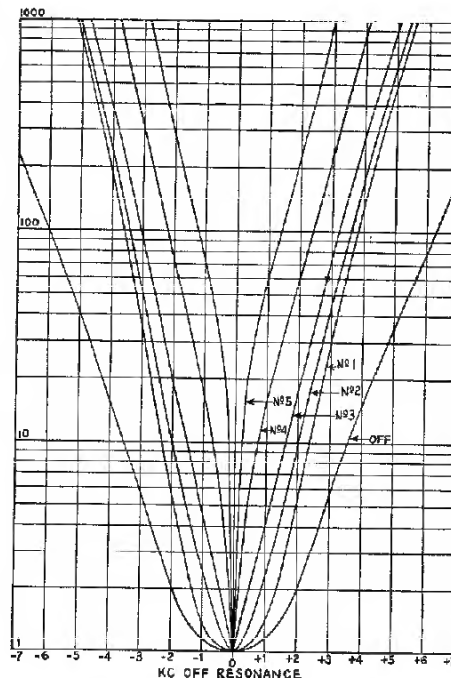
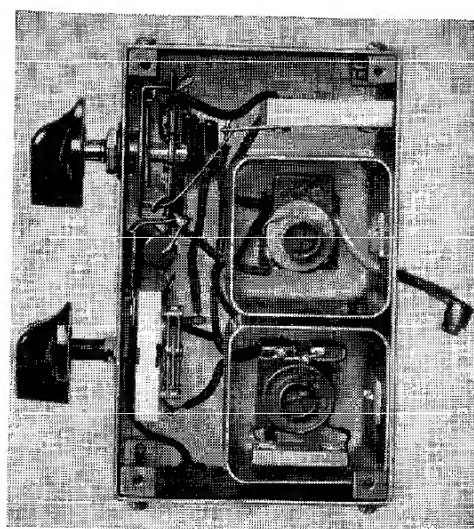

FIG. 3—Overall selectivity curves for 455 kc. I.F. amplifier and crystal filter. Labeling of the curves corresponds to the markings on the panel.
FIG. 9—Crystal filter unit.
the selectivity for these settings of the selectivity control are indicated in Fig. 3. There is absolutely no interlocking of the controls in this crystal filter. The rejector or phasing control can be set to eliminate a heterodyne of some particular frequency within its range, and will not require re-adjustment when the selectivity control of the filter is changed. Also, the output, or overall gain, of the receiver is not noticeably affected by changes in selectivity of the filter. This feature is extremely desirable, especially from the standpoint of accurately determining the strength of incoming signals. It is not necessary to make allowances for usual attenuation in the crystal filter, should it be necessary to change the selectivity in order to eliminate interference. Complete is unit shown in Fig. 9.
I. F. AMPLIFIER: The intermediate frequency amplifier consists of three stages employing iron core permeability-tuned transformers. The intermediate frequency is 455 kc. which has now become the R.M.A. standard. Overall selectivity curves for the I. F. amplifier with crystal filter are shown in Fig. 3. The A.V.C. arrangement in this amplifier provides remarkably smooth operation. There is a switch for cutting out the A.V.C. and providing manual control of volume or sensitivity.